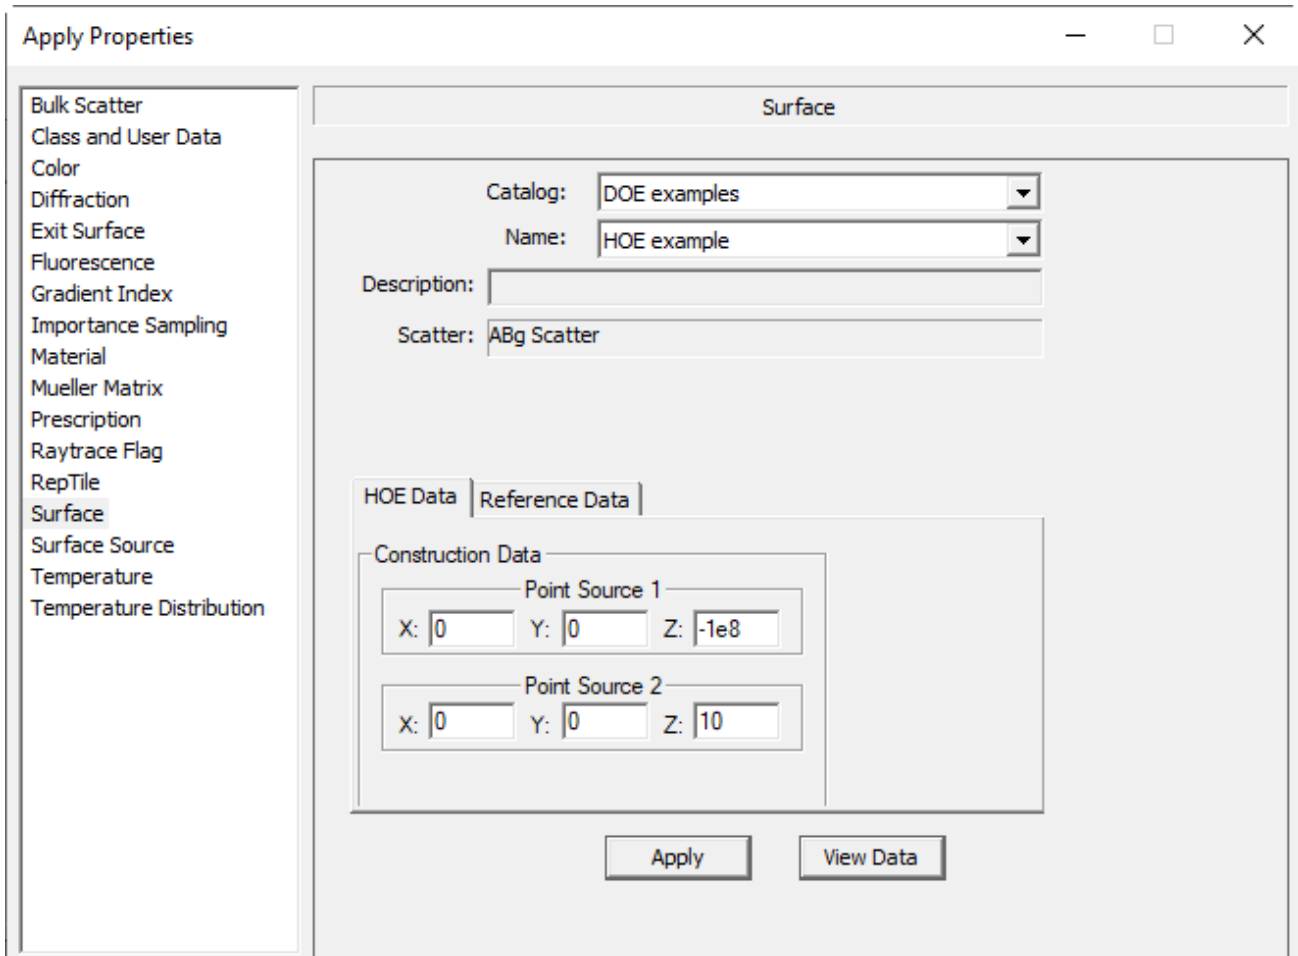

Figure 9. Apply Properties dialog box, showing the construction points for a HOE type surface property.
8. In the **System Tree**, select *Surface 0* of the Lens Element you created earlier. Open the **Apply Properties** dialog box (**Define|Apply Properties...**), and select the **Catalog** and **Name** of the property you created. In the *Construction Data* box in the **HOE Data** tab, set *Point Source 1* to  $x=0, y=0, z=-1e8$ , and *Point Source 2* to  $x=0, y=0, z=10$ , as shown in Figure 9. Click **Apply**. This will create a HOE that will focus collimated light at 10 mm beyond the Lens Element This focal length is for light at the **Construction Wavelength** entered in the property. (Actually, not quite, because of the finite thickness of the plate.)